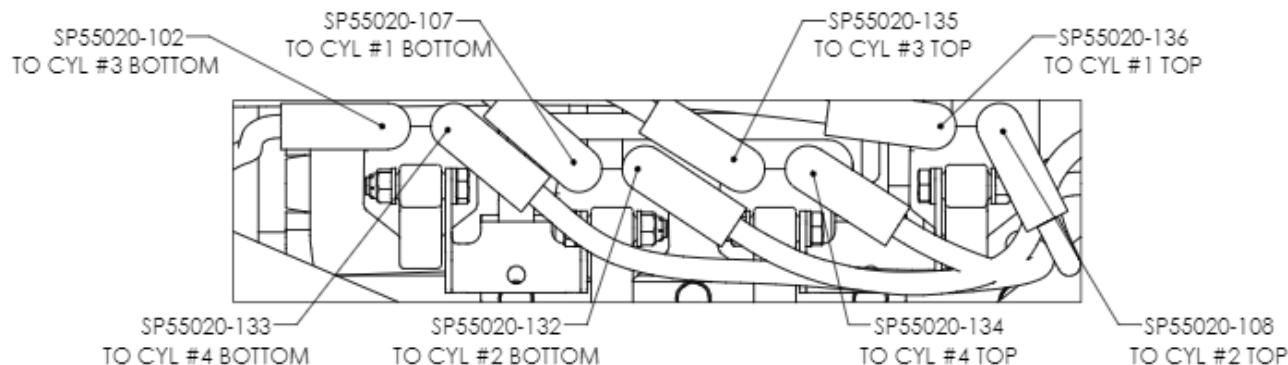

FIGURE 4 – SPARK PLUG WIRE IDENTIFICATION
12. If ignition wires and spark plug wires were removed per Step 3, install new ignition wires. Part numbers are provided in the parts list. Install spark plug wires per Figure 4. If ignition and spark plug wires were not removed, proceed to Step 13.
16. Perform an engine-run on the ground, checking for correct ignition operation per POH/AFM "Before Takeoff" procedures. If problems are found, verify connections per Figures 4 / 5 and re-check operation.